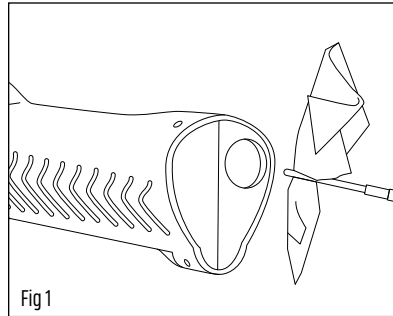

Fig 1
2. In a well-ventilated environment, preferably outdoors, position LifeLite™ barrel in downward direction and gently tap side of launcher to remove large shell fragments and powder from barrel opening. (Fig 1)
3. Using a damp swab, clean remaining powder out of magazine tube by gently inserting swab in a rotating motion. (Fig 1)